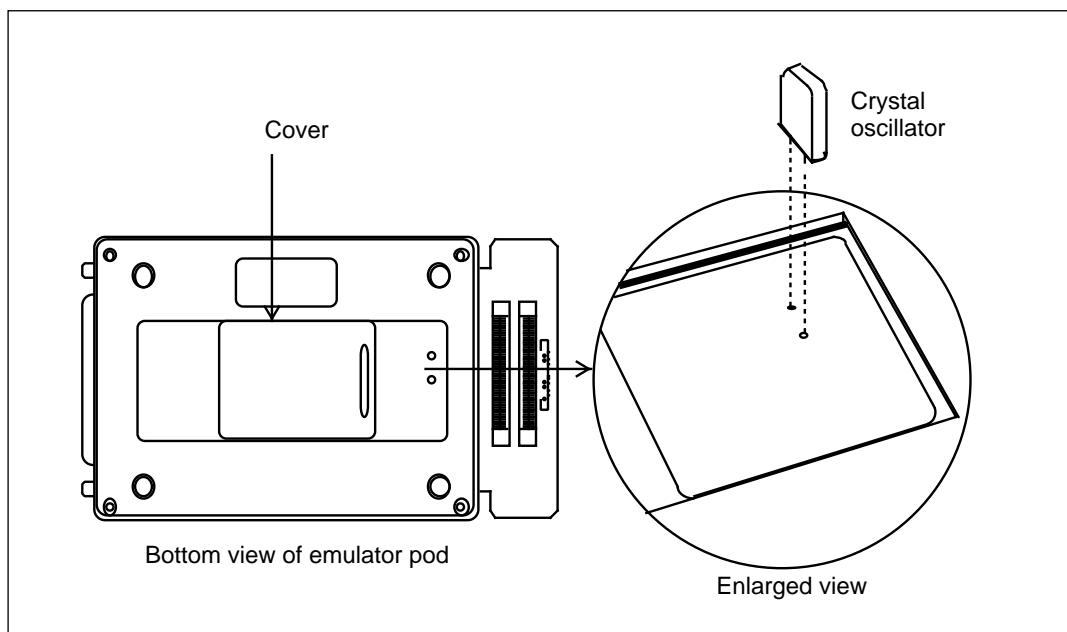

Figure 3-5 Installing the Crystal Oscillator
2. Install the crystal oscillator into the terminal at the bottom of the emulator pod (figure 3-5).